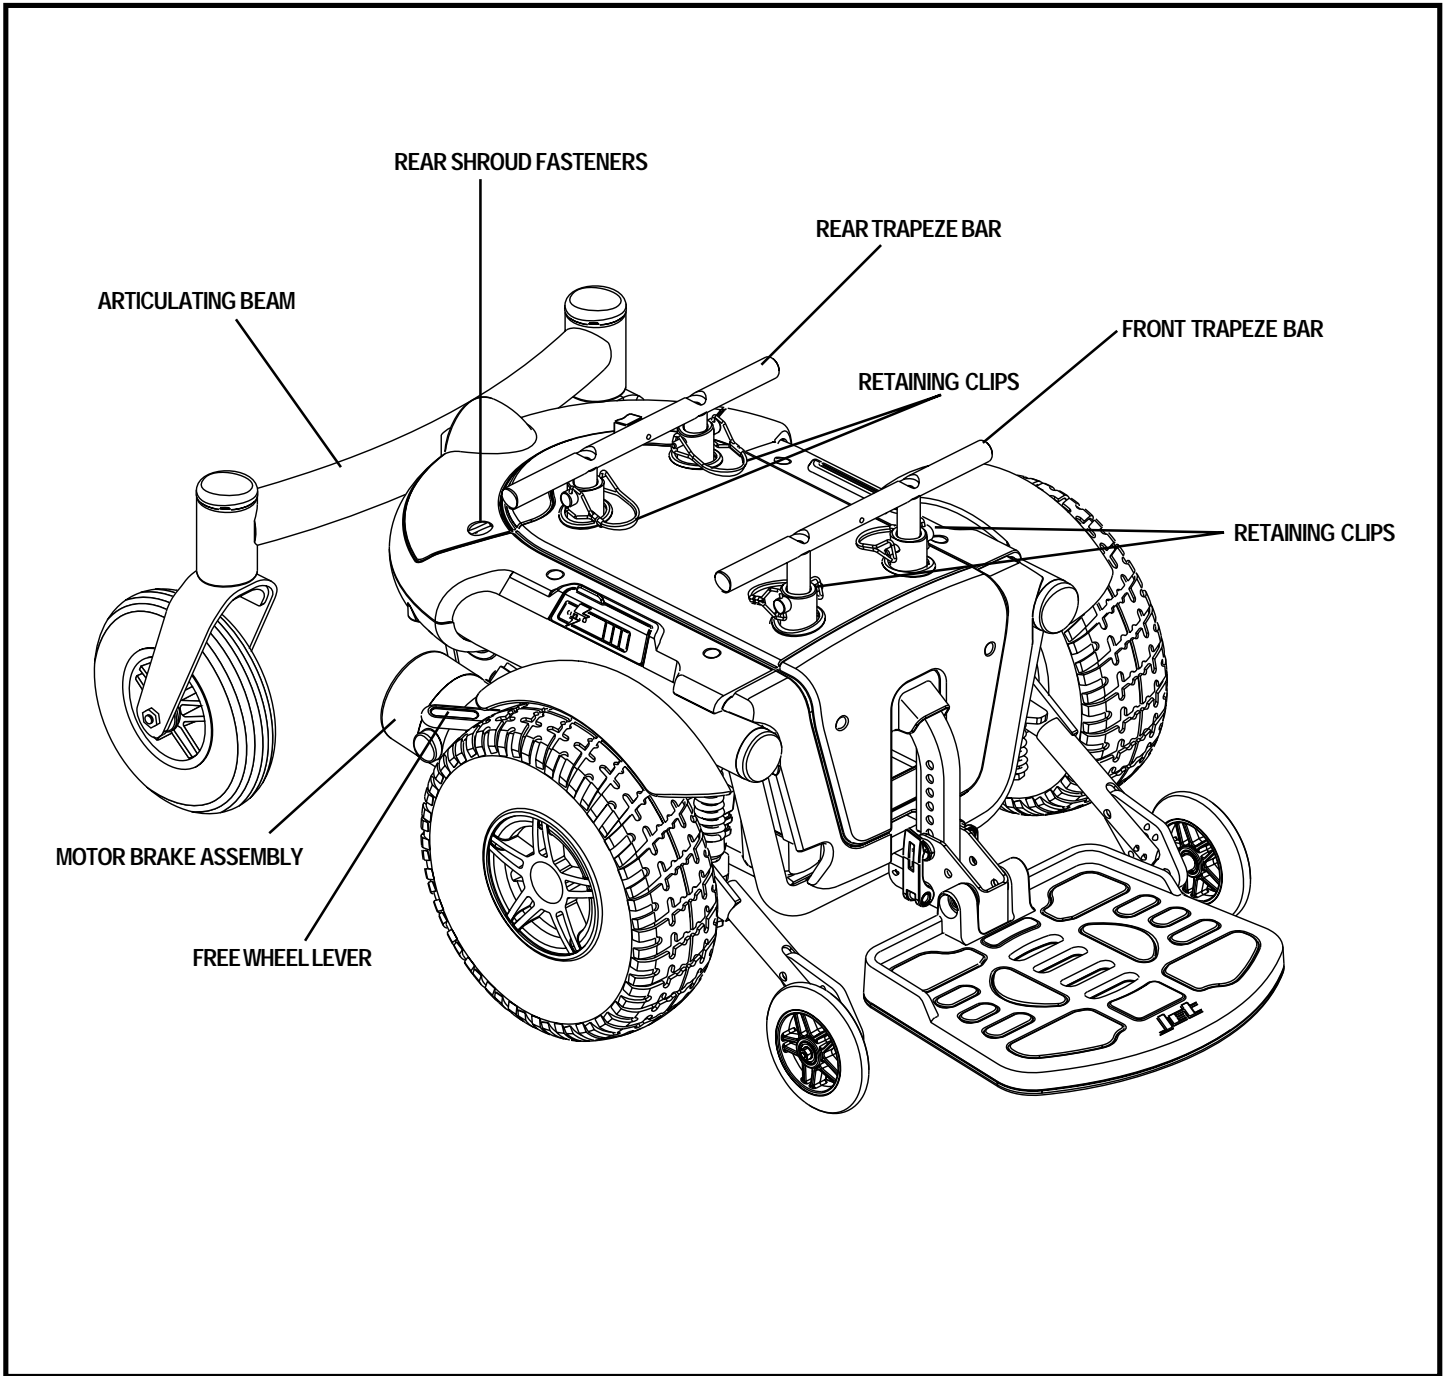

Figure 6. The Jet 3 Ultra Power Base
6. Turn the rear shroud fasteners one-quarter turn in any direction. See figure 6.
2. Turn the rear shroud fasteners one-quarter turn in any direction and remove the rear shroud cover. See figure 6.